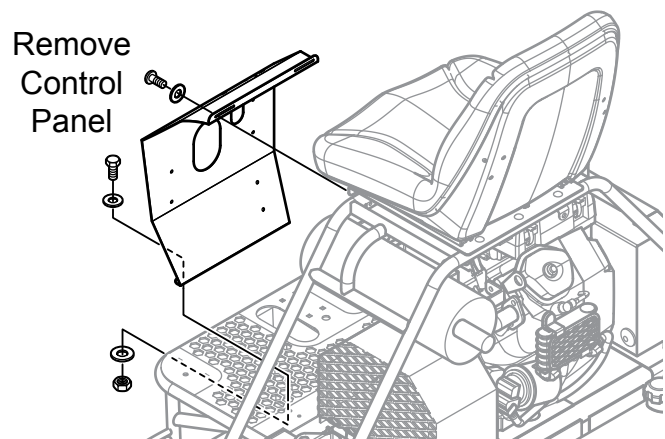

Figure 4. Remove Control Panel
See Figure 4.
1. Reinstall control panel. See Figure 4.